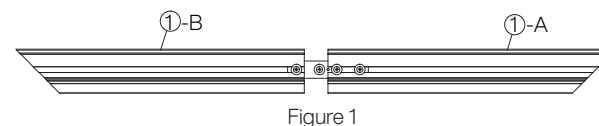

Figure 1
- 2.2 Connect inner frame A and inner frame B first (Figure 1)